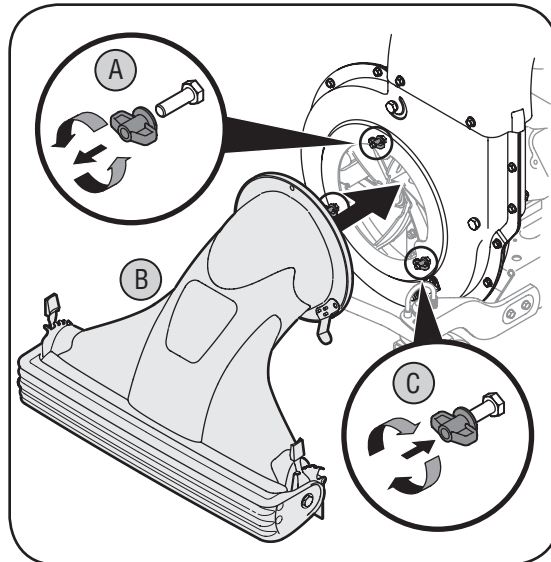

Figure 3-2
- a. Remove three wing nuts from the front of the chipper shredder vacuum. See Figure 3-2.
- c. Secure with wing nuts just removed. See Figure 3-2.
NOTE: The metal tab on the nozzle must depress the safety switch button attached to the front of the chipper shredder vacuum or engine will not start. See Figure 3-2.